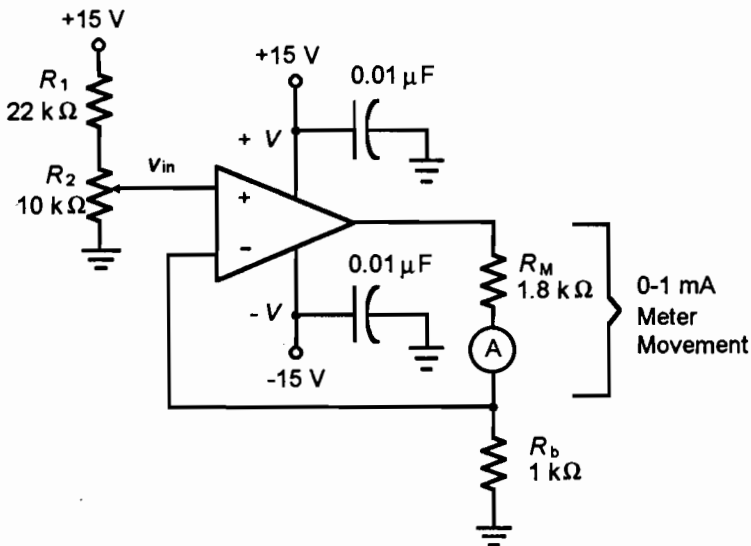

Figure 48.2
5. Turn off the DC power. Modify your circuit to that of Figure 48.2. Use a 1-mA meter movement, if available. If not, use your digital multimeter, set to 1-mA range as shown in Figure 48.2.